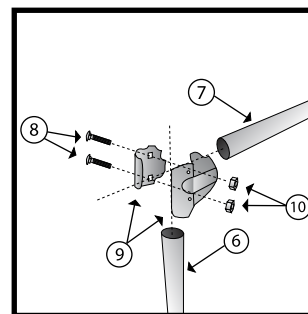

Figure 3
3. Attach top rail bar (7) using brace clamps (9), 5/16" carriage bolts (8) and 5/16" keps (10). Attach brace clamps on both sides of the top rail bar. (Figure 3)